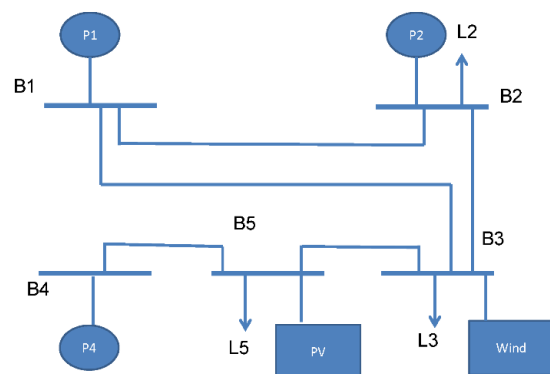

Figure 2
- Q#2) For the power system in Figure 2 with the data provided in table1 (provided as text file), all lines have $Z=0.1j$ and the fuel-cost curves of the three generators are given as follows: